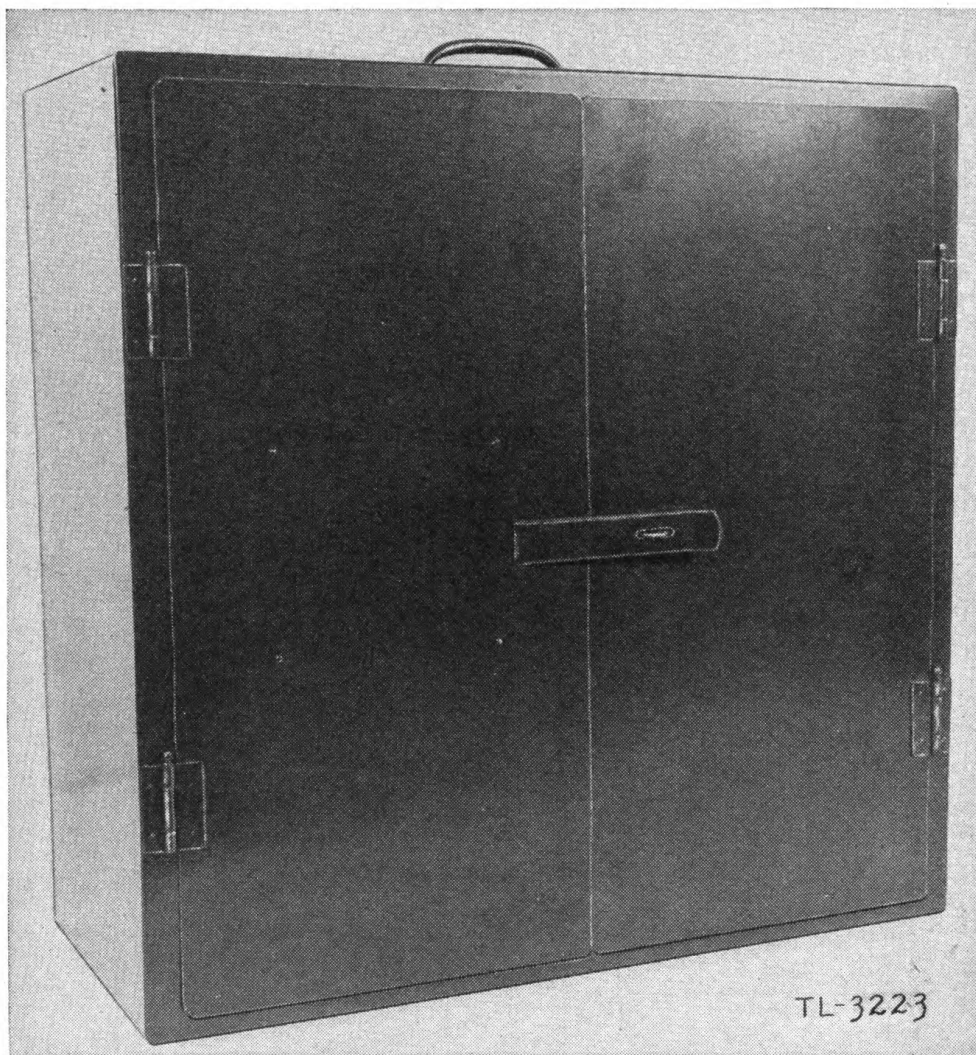

FIGURE 8.—Panel BD-( )-61 ready for shipment.
(2) *Panels BD-LM-61, BD-LN-61, BD-LO-61, and BD-LP-61.*—The insulated panel board is made of  $\frac{1}{2}$ -inch black phenolic plate, fastened to the steel case (figs. 8 and 12). A voltmeter IF-47, 0-50 volts, direct current; three ammeters IF-17, 0-15 amperes, direct current, marked "1," "2," and "3"; an inclosed magnetic contactor switch; an inclosed reverse current relay (automatic switch); three rheostat control handles marked "1," "2," and "3"; and three inclosed 10-ampere double-pole single-throw circuit-breakers marked "BAT 1," "BAT 2," and "BAT 3" are mounted on the face of the panel. Three rheostats of 12.5 ohms each are mounted on the back of the panel (fig. 13). The ammeter, rheostat, and circuit-breaker in